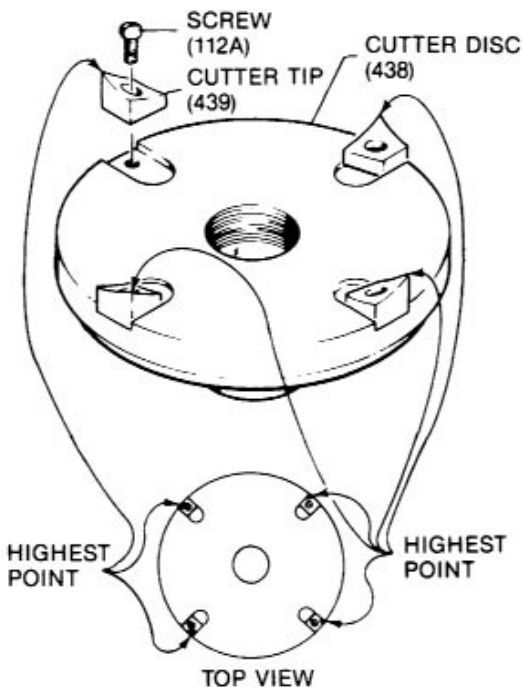
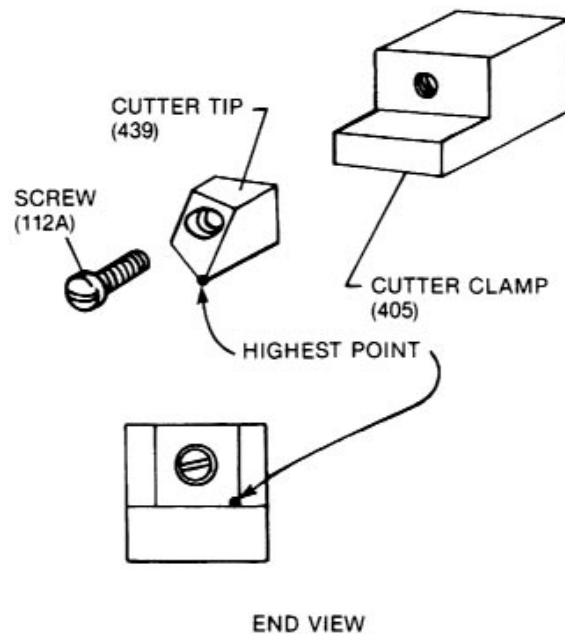

Figure 1
Figure 2
7. Attach cutter tips (439) to cutter disc (438) with screws (112A). See Figure 1 for correct position.
8. Screw cutter tip and cutter disc assembly on drive shaft (26) in a clockwise direction (RH thread).
9. Attach cutter tip (439) to cutter clamp (405) using screw (112A). See Figure 2 for correct position.